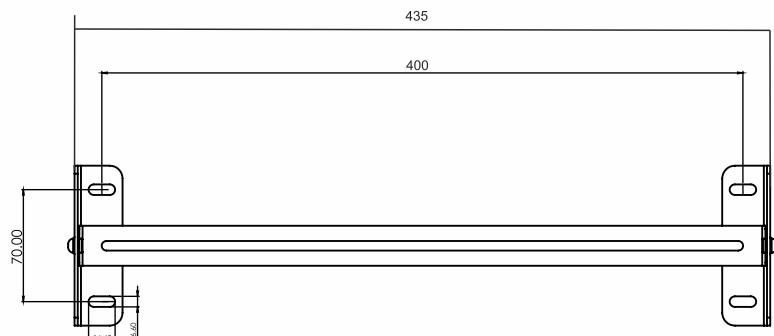

Fig. 5.3 Mounting Brackets for KUSPC 2.0
1. Connect the mounting plate strip to the mounting brackets and then mark the Positions of the Drill Holes of the wall mount bracket. The mounting position should be marked as shown in Figure 5.3.